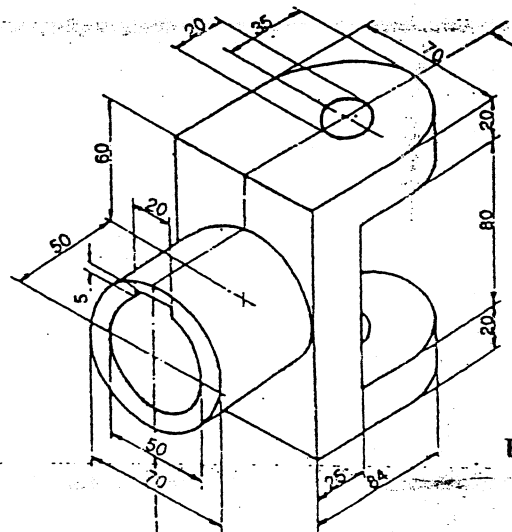

Figure 1
3. Pictorial view of an object is shown in figure 1. Draw (with dimension) its sectional front view, side view and top view. [12]